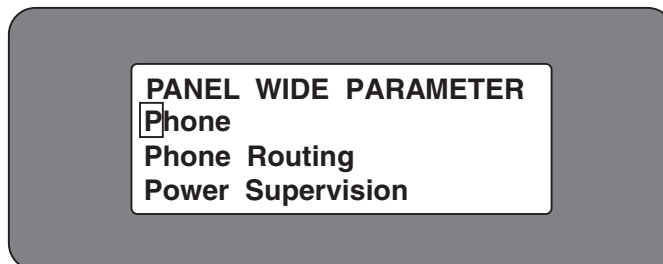

Figure 10: CATEGORIES IN THE 7112 PANEL WIDE PARAMETERS MODULE MENU
Categories within the D7112 Panel Wide Parameters section appear in the LCD display (see Figure 10). These correspond to the Panel Wide Parameters categories shown on the D7112 Program Record Sheet (Phone, Phone Routing, Power Supervision, etc.). Move the cursor through the category titles with the red ↓ and ↑ keys. Three categories are always displayed in the Panel Wide Parameters menu. When the cursor is moved down from the last category (**BELL PARAMETERS**), the first category (**PHONE**) scrolls into view.
Scroll through the Panel Wide Parameter categories (using the red ↓ and ↑ keys) until the cursor flashes on **Phone** (see Figure 10). Press the red **ENTER GROUP** key.
2. Enter a phone number by pressing number keys on the programmer keyboard: (Example: **14155551212** in Figure 10).